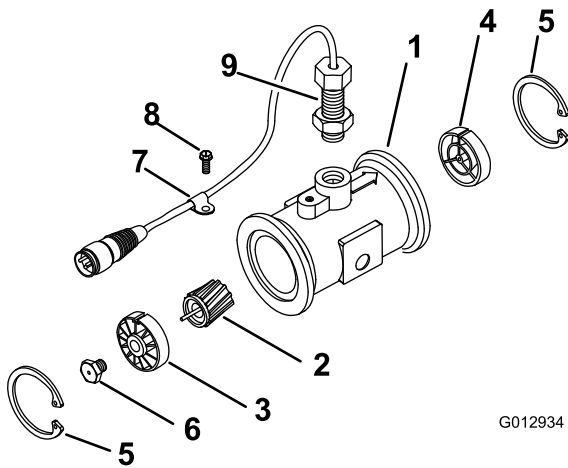

Figure 67
3. Remove the retainer ring on the upstream side (Figure 67).